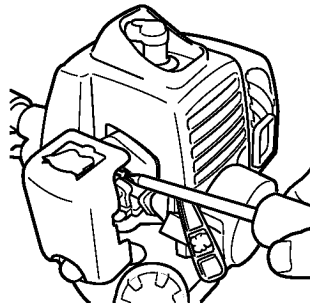

Fig. 31
**Carburetor adjustment (Fig. 31)**